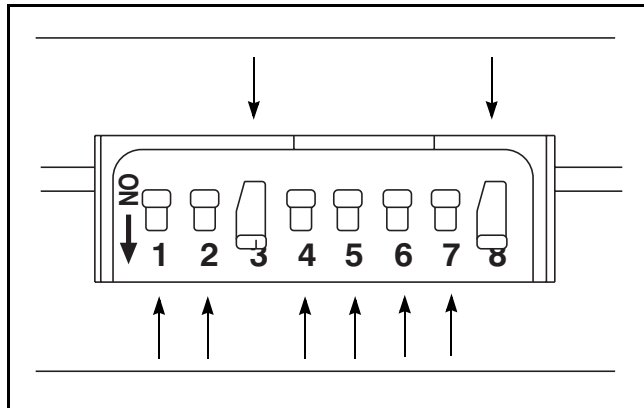

Figure 3.10-3 Setting Dip Switches on Modem
2. Place modem in Auto Answer Mode by setting dip switches on back of modem as shown (see Figure 3.10-3). Dip switches must be set so switches 3 and 8 are ON (down) and all others are OFF (up).